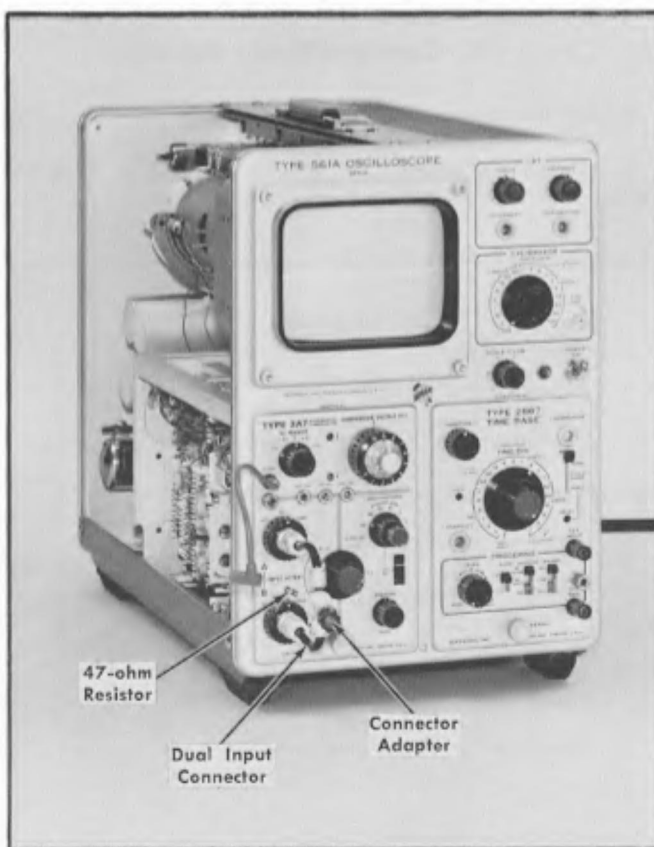

Fig. 5-32. Setup at completion of step 25d.
d. Connect the Vc OUT jack through a 47-ohm resistor to both A and B input connectors. To make the connections, use the dual input BNC connector, a connector adapter and a 6-inch jumper lead with a tip plug. The 47-ohm resistor prevents oscillations from occurring. Fig. 5-32 shows the setup.